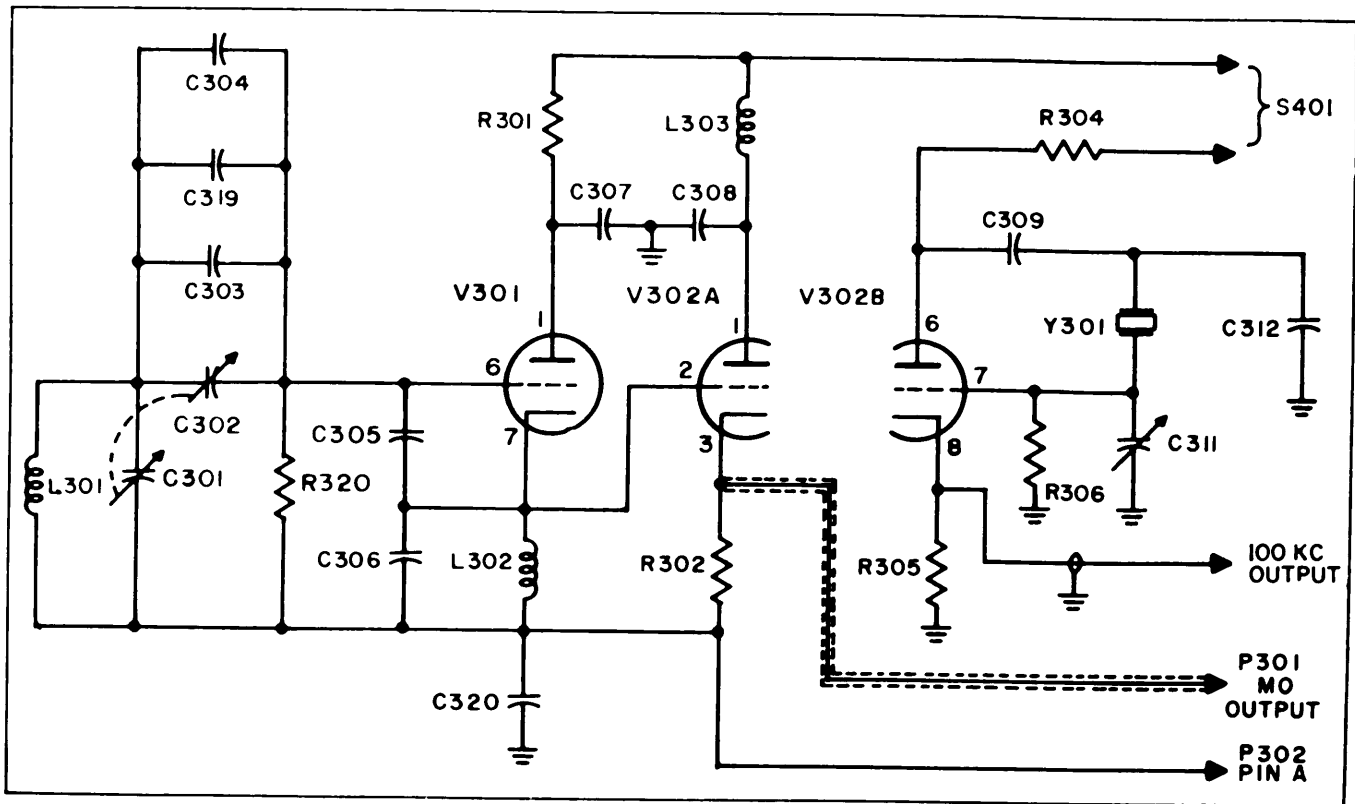

Figure 4-2. Master and Calibration Oscillators, Simplified Schematic Diagram
(a) The master oscillator stage uses triode V301 in a Colpitts oscillator circuit. (See figure 4-2.) The tuned grid circuit consists of L301, tuning capacitors C301 and C302, and padders C303, C304 and C319. The tank circuit is effectively tapped by C305 and C306 which parallel L302. The load is in the cathode circuit and the plate is placed at rf ground by C307. The output of the oscillator tube is taken from the cathode and applied to the grid of cathode follower V302A.
(2) CATHODE FOLLOWER. - The cathode follower isolation stage V302A is provided at the output of the oscillator stage to reduce the effect of load variation of the oscillator frequency. (See figure 4-2.) This stage is located in the temperature-controlled oven for added stability and consists of V302A, plate decoupler L303 and plate bypass C308. The cathode output developed across R302 is connected to the MO output connector P301.
(3) 100-KC CALIBRATION OSCILLATOR.
(a) The second half of triode V302 is used for the 100-kc calibration oscillator. (See figure 4-2.) Crystal Y301 is placed in the temperature-controlled oven with V302B to insure stability. Plate voltage is applied to V302B by rotation of the OSCILLATOR switch